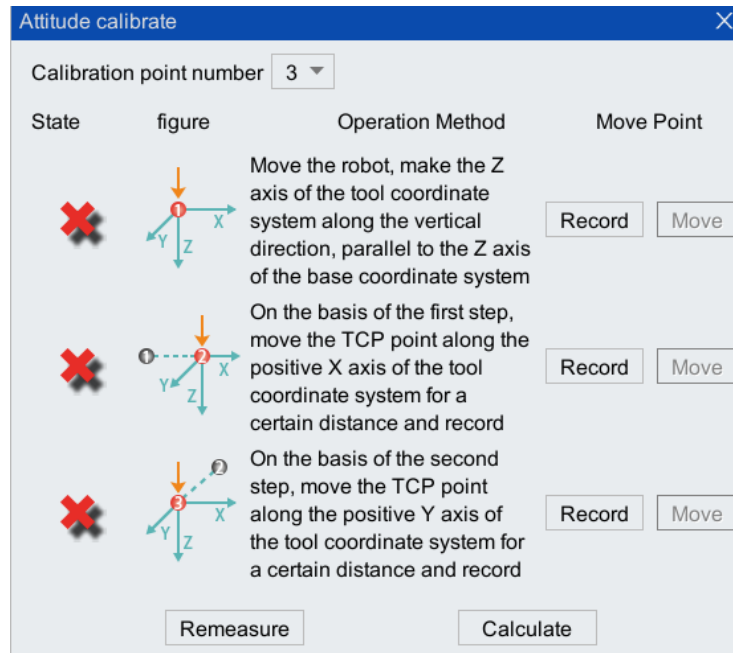

Figure 5-4 Three-point calibration
Step 4. (Optional) Click to select the row where the tool coordinate system tool0 is located, and click <Three Point Method> to pop up the interface as shown in Figure 5-4. By calibrating the posture ABC of the coordinate system.